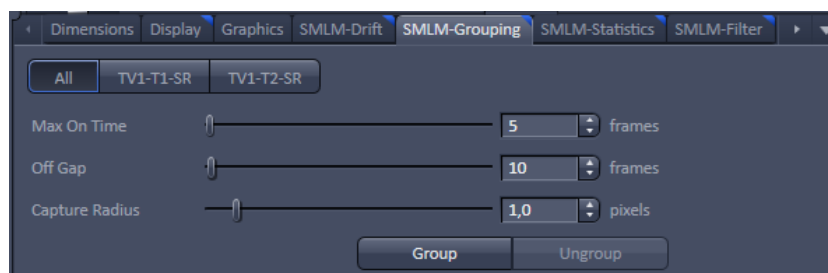

Fig. 635 SMLM-Grouping view control tab of the SMLM view tab
**SMLM-Grouping** is used to assign and group identified peaks to one object (molecule) (Fig. 635). What peaks should be considered to be derived from one molecule can be defined with the following parameters: